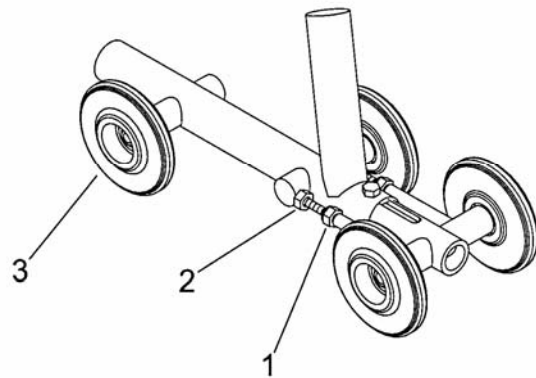

FIGURE 4
1. In order to obtain an en equal tension on both sides of the track, tighten equally both adjustment nuts (FIGURE 4, # 1) using two 9/16" wrenches and set both locking nuts (FIGURE 4, # 2) in a manner that will make it rest equally against every one of the guiding rollers (FIGURE 4, # 3) in the tubular frame.